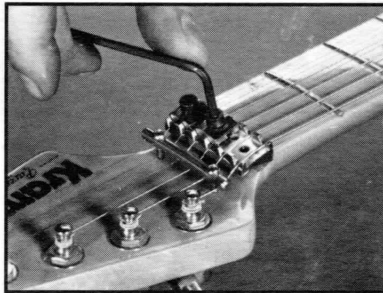

FIGURE SG 5
- B. When strings are installed replace locking elements Fig. SG 5.